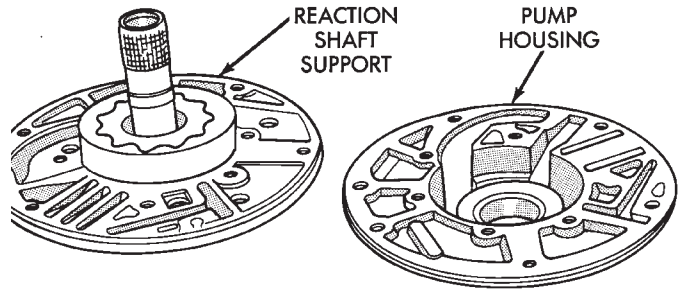

Fig. 120 Separating Pump Housing From Reaction Shaft Support
- (4) Separate support from pump housing (Fig. 120).